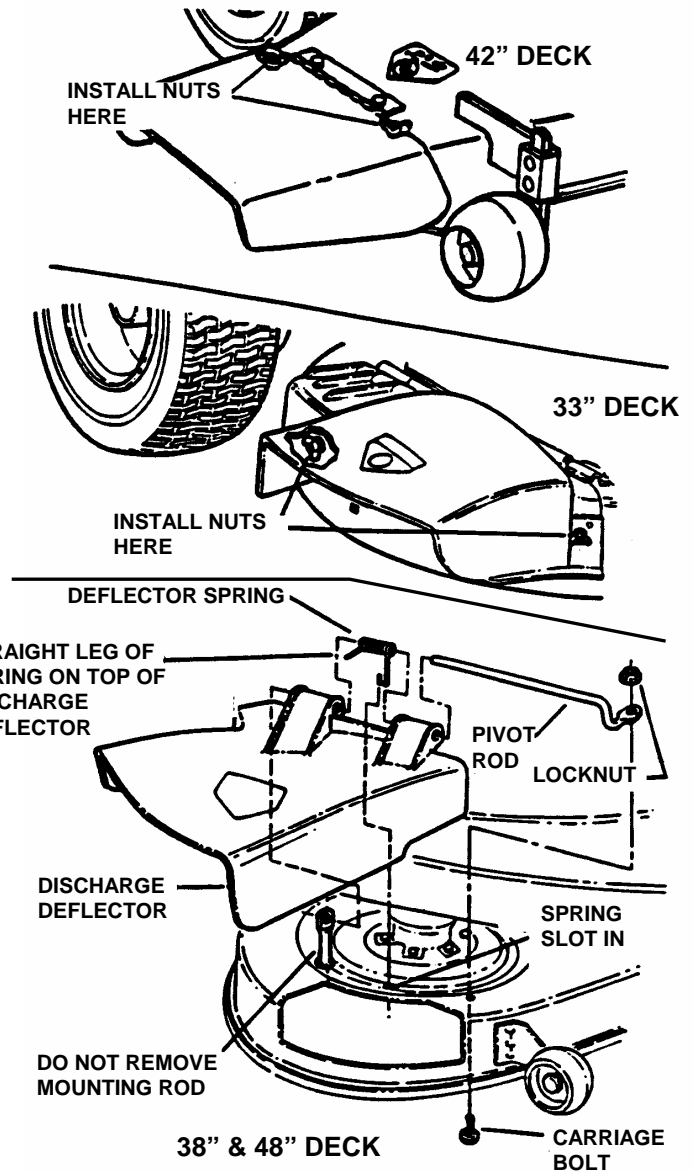

FIGURE 3
A. The discharge deflector on 33", 42" & 48" Models are shipped in the "UP" position. Remove rubber band, lower discharge deflector and secure to deck with carriage bolt(s), flat washer(s) and wing nut(s) furnished with the deck. See Figure 3. NOTE: 38" Models are shipped with discharge deflector removed. Follow instructions to install deflector.
2. Insert pivot rod partially into deflector hinge, slide spring onto rod with straight leg on top, then insert rod through other hinge and then into mounting rod. Insert hooked end of spring into deck. See Figure 3.
3. Secure pivot rod to deck using carriage bolt and nut. Tighten securely. See Figure 3.